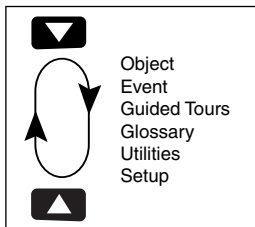

Fig. 19: Menus set in a loop.
It is important to understand that menu selections are set in a loop (Fig. 19). This means that pressing the Scroll Down key (7, Fig. 2) cycles down through all the available options within a given category, then returns to the first option. The Scroll Up key (6, Fig. 2) cycles up through the options in the opposite order. Note that this capability is a quick way to get to an option that is near the bottom of the list. The following example demonstrates this capability.